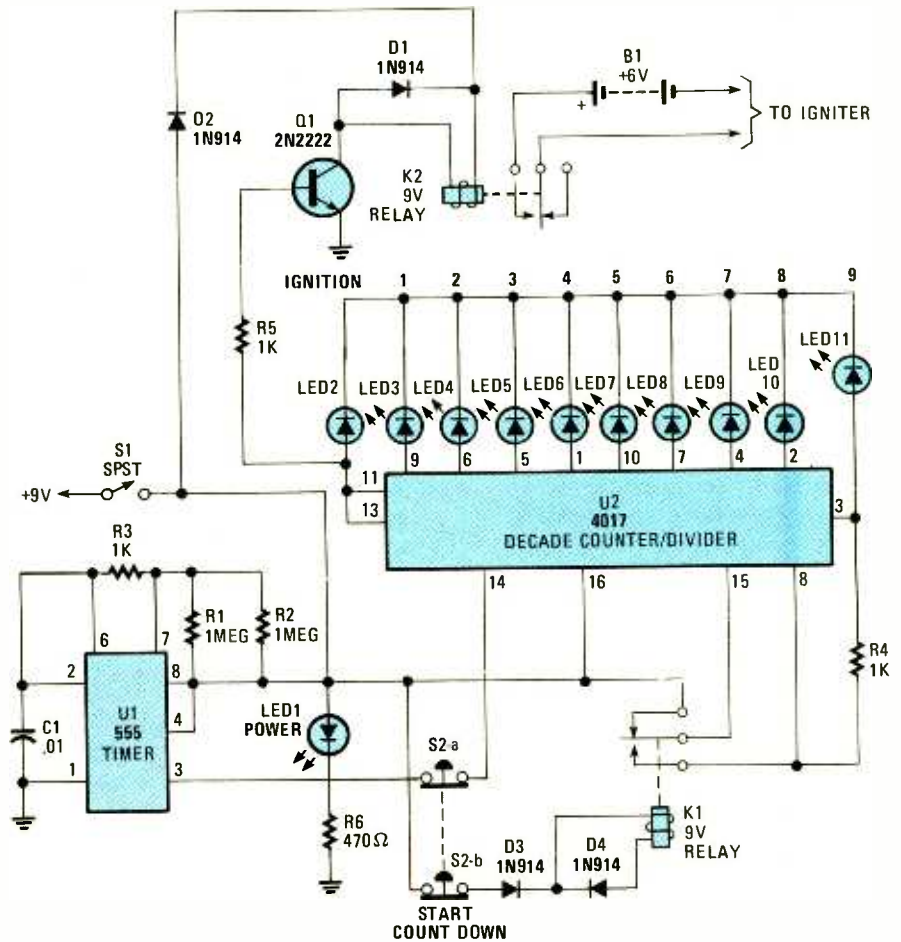

Fig. 9. This Launcher circuit is basically a countdown timer, which is designed to automatically ignite a rocket's engines when the ignition LED comes on.
**Launcher.** I'm not into model rocketry myself (by the way, I'm 12 years old) but I designed a fantastic rocket launcher that has an "armed" LED plus ten other LED's, which represent count "9" to "ignition." See Fig. 9.